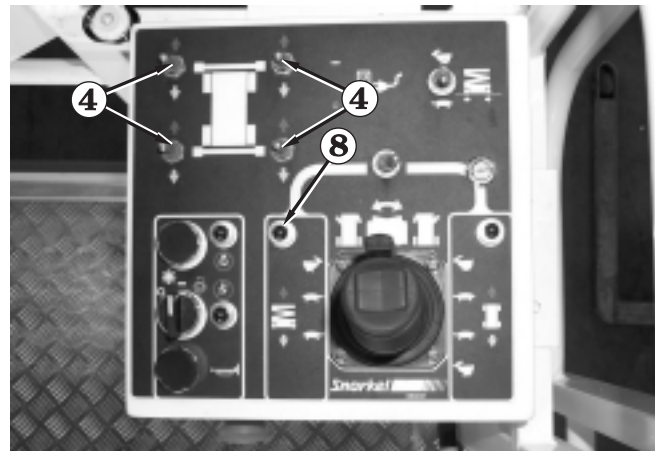
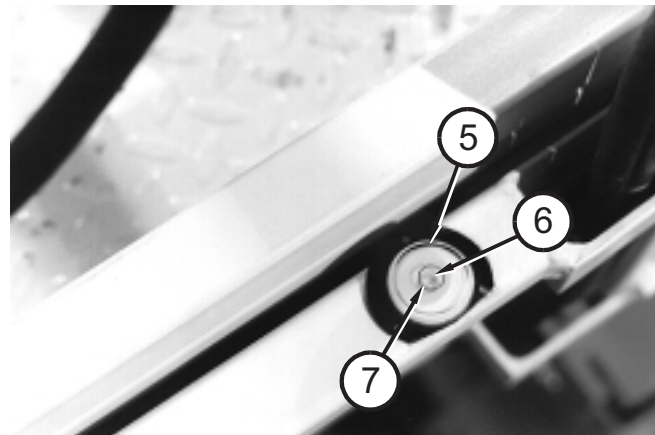

Figure 8.24
Figure 8.25
4. Pull and hold the **Outrigger** switches ④ (see Figure 8.24) backward, one at a time, until all four outrigger pads ① (see Figure 8.23) contact the ground.
5. Visually check the bubble level ⑤ to determine which outriggers must be further extended to level the platform ③ (see Figure 8.25).
- Lower the appropriate outriggers just enough to center the bubble ⑤ (see Figure 8.25). When the **Lift Indicator Light** ⑧ (see Figure 8.24) comes on, the platform can be safely raised.